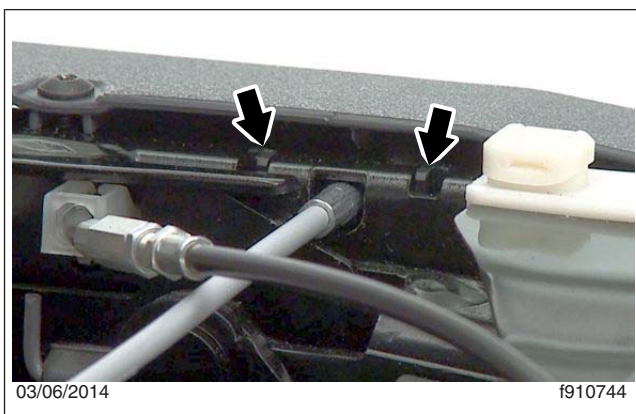

Fig. 12, Locating Tabs, Shock Absorber Adjustment Lever
2. Push the end of the cable through the hole in the seat frame, then install the lever, with the two tabs on the back of the lever positioned through the locator holes, as shown in Fig. 12.